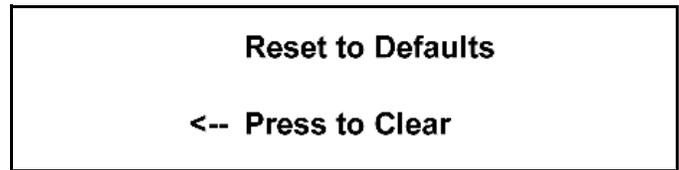

Figure 2-127
7. Place the Power switch to ON, clear the two information screens that appear, and the Unit Cleaned message will be displayed. (See Figures 2-127, 2-128, and 2-129.)